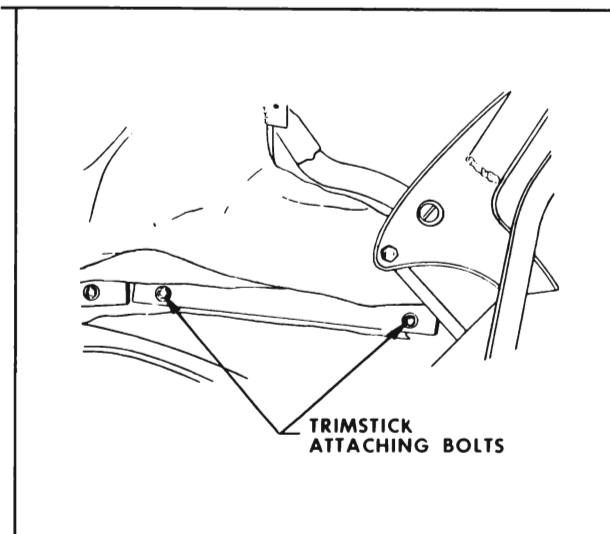

Figure 7-24—Rear Quarter Trim Stick
6. At each rear quarter area remove attaching bolts and washers securing rear quarter trim stick assembly to rear quarter inner panel (see Figure 7-24).